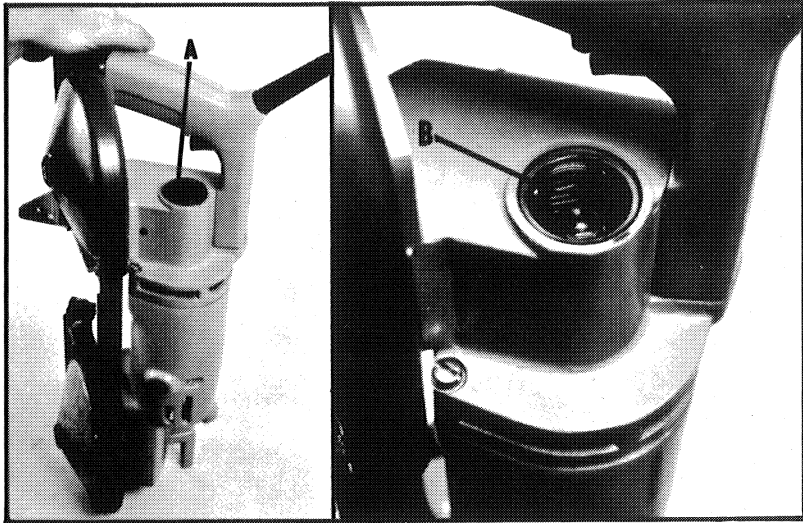

Fig. 6
2. Remove oil filler plug and gasket (A) Fig. 6.
4. With motor running, observe whether the lubricant is being carried over the top of the worm gear teeth (B) Fig. 6. If not, stop the motor and add a small amount of lubricant furnished with your saw.